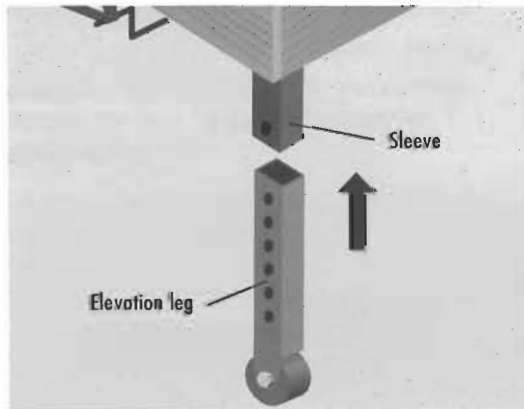

Figure 1
2. Tilt the treadmill base to one side. There should be enough clearance to slide an elevation leg into the sleeve at the front of the treadmill deck (Figure 1).